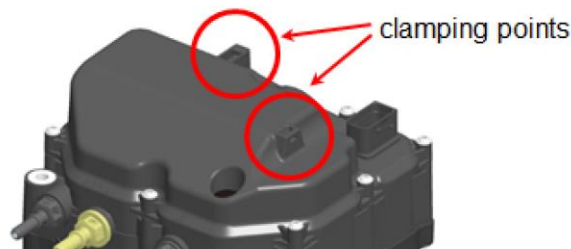

Figure 4-M Clamping points for electrical cables
- The maximum distance between the SM hydraulic connector and the first fixation point of the hydraulic line is 200 mm. The clamping points for electrical cables (Refer to Figure 4-M) must not be used for attaching hydraulic lines.